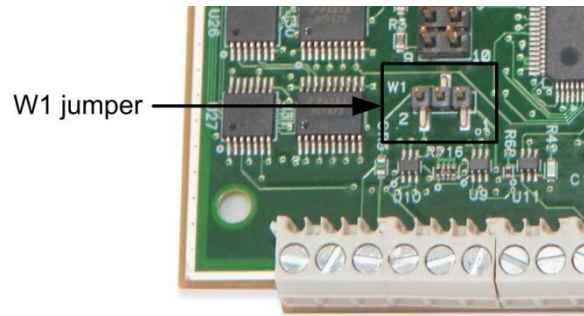

Figure 8. W1 jumper location
- Configure jumper **W1** for either pull-up or pull-down. The jumper is configured by default for pull-down. Figure 8 shows the location of the jumper on the board.